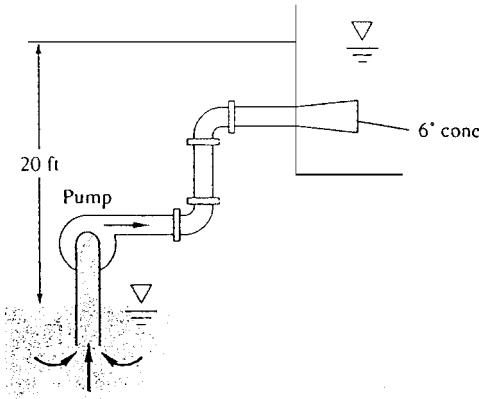

Fig. P6.102
**6.102** A 70 percent efficient pump delivers water at  $20^\circ\text{C}$  from one reservoir to another 20 ft higher, as in Fig. P6.102. The piping system consists of 60 ft of galvanized-iron 2-in pipe, a reentrant entrance, two screwed  $90^\circ$  long-radius elbows, a screwed-open gate valve, and a sharp exit. What is the input power required in horsepower with and without a  $6^\circ$  well-designed conical expansion added to the exit? The flow rate is  $0.4 \text{ ft}^3/\text{s}$ .